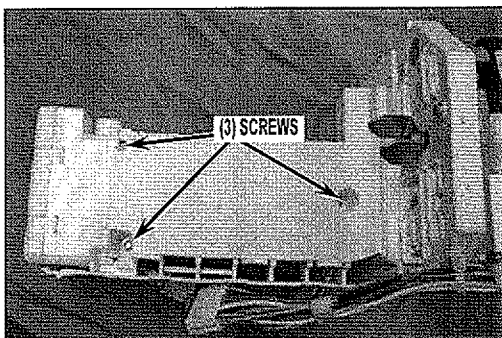

FIGURE 8
10. Turn ice maker module over and remove three screws from bottom of impinger to release ice maker. Discard screws. See Figure 8.